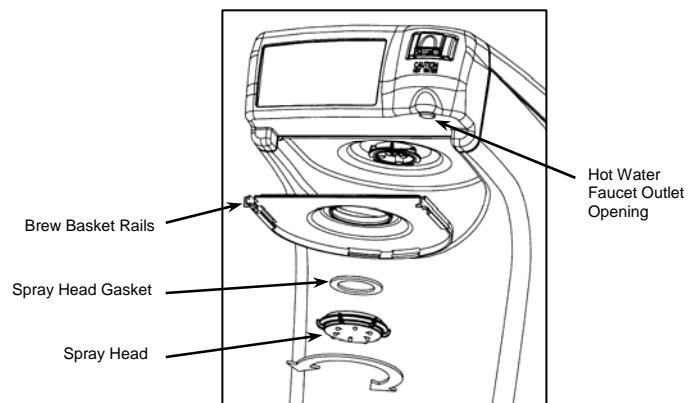

Figure 6
1. Turn spray head counter clockwise a quarter turn until it stops (see figure 6).
Mineral build up may occur over time causing a slower than normal flow rate from hot faucet. Periodically inspect the faucet outlet (see figure 6) for mineral build up. Also check for mineral build up, obstruction or kinking of the silicone tube from the hot tank to the hot faucet. If build up is abundant, the hot faucet may need to be replaced. For replacement see instructions below.